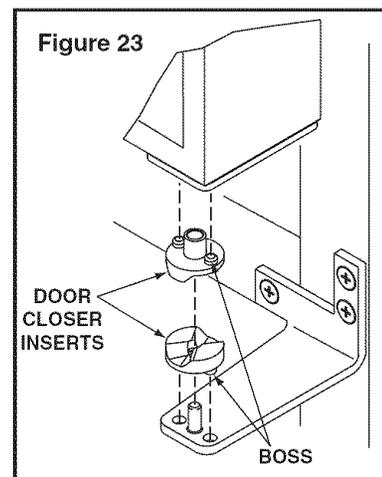

Figure 23
- 2 Remove the top hinge pivot pin with a Phillips® head screwdriver (see Figure 21) and lift door off bottom hinge pin. Be careful not to lose door closers (see Figure 23).
- 5 After adjustment is complete, remove the door closers from the bottom hinge, clean thoroughly and apply petroleum jelly to the mating surfaces of the closers (see Figure 23). Be sure that bosses on closers align with holes in hinge and hinge plate. Mount door and install top hinge pivot pin.